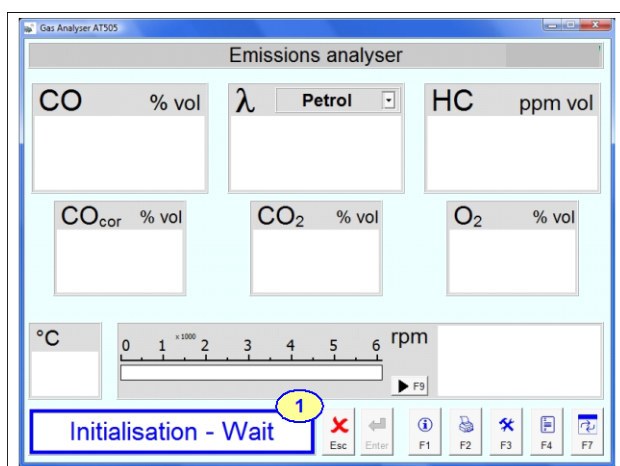
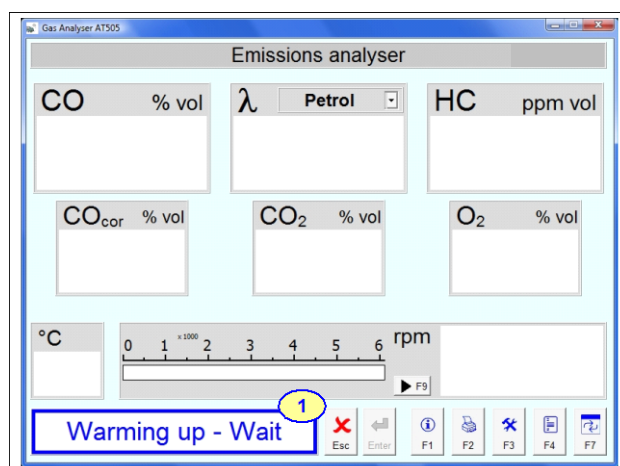

Fig. 37 – Initialisation of measuring devices
Fig. 38 – Test bench heat-up
After start-up, the initialisation of measuring devices and optical bench heat-up will take place (see Fig. 37). Until the bench is heated-up to its operating temperature, a warming up message will flash in the info box (see pos.1 - Fig. 38).